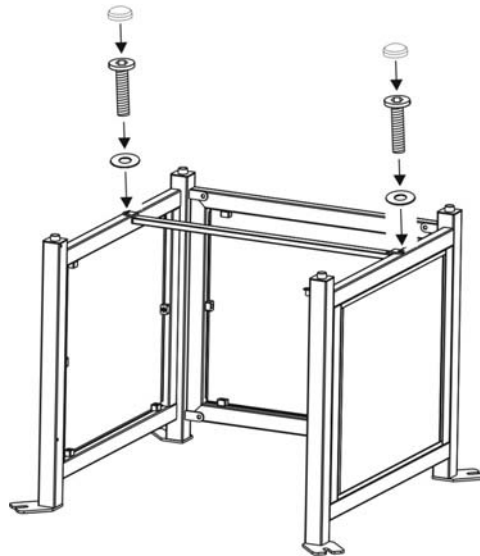

Figure 3
3. Attach the middle support to the side panels by using two 1/4"x15 mm bolts and Ø6.5x1.0 mm washers as shown in Figure 3. Guide the bolts through the holes in the middle support, into the pre-drilled holes in the side panels. **Hand tighten only.**